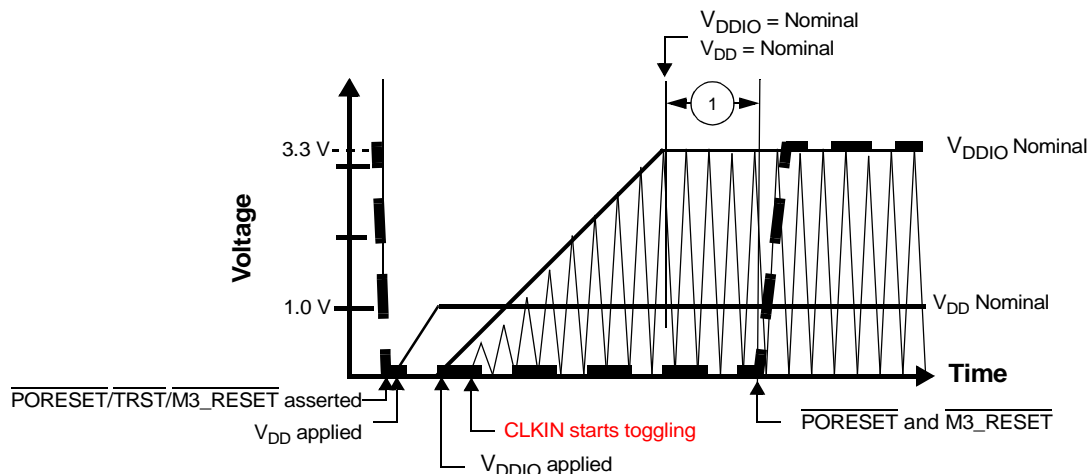

Figure 5. Start-Up Sequence with V_{DD} Raised Before V_{DDIO} with CLKIN Started with V_{DDIO}
- CLKIN should start toggling at least 32 cycles before the $\overline{PORESET}$ deassertion to guarantee correct device operation (see **Figure 5**). 32 cycles should be counted only after V_{DDIO} reaches its nominal value.
Figure 5 shows a sequence in which V_{DDIO} is raised after V_{DD} and CLKIN begins to toggle with the raise of V_{DDIO} supply.